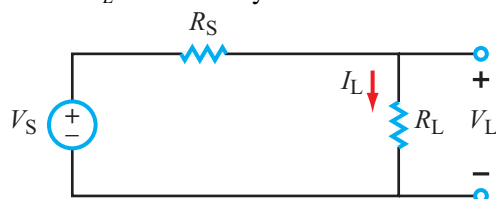

Figure 23: In-Lab load circuit.
3. Build the circuit shown in Figure 23. Set the power supply voltage to $V_s = 6\ \text{V}$.